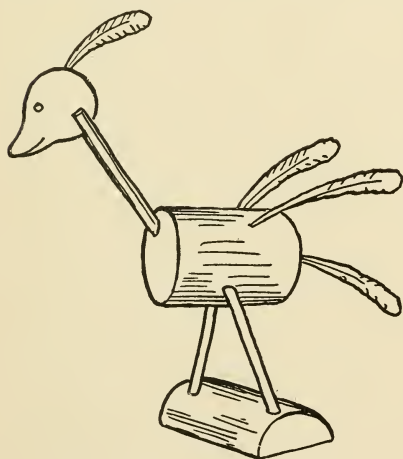

FIG. 401. — The Korka-bird.
**Other Animals** upon the same schemes as those just described, by consulting the pictures in one of these books. It is not necessary to always copy a real animal. Use your ingenuity and see what queer-looking creatures you can make. Figure 401 gives a suggestion for one of these, which we will call